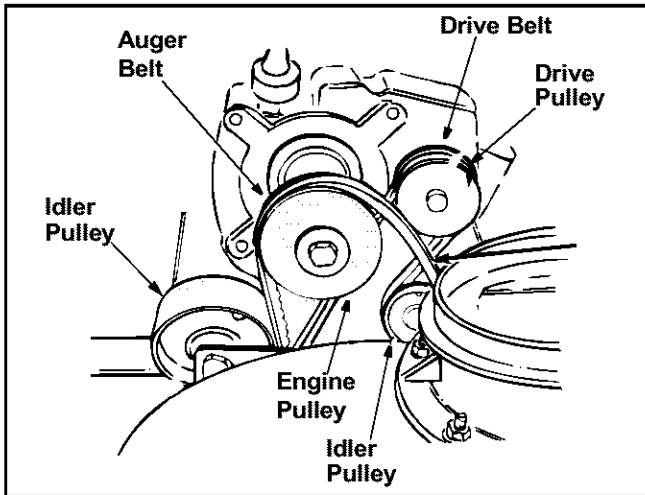

Figure 23
- Roll the front and rear auger belts off the engine pulley. See Figure 23.
- Lift the rear auger belt from the auger pulley, and slip belt between the support bracket and the auger pulley. Repeat this step to remove the front auger belt. See Figure 23.
- Pull idler pulley up, and lift belt off engine pulley and friction wheel disc. See Figure 23.